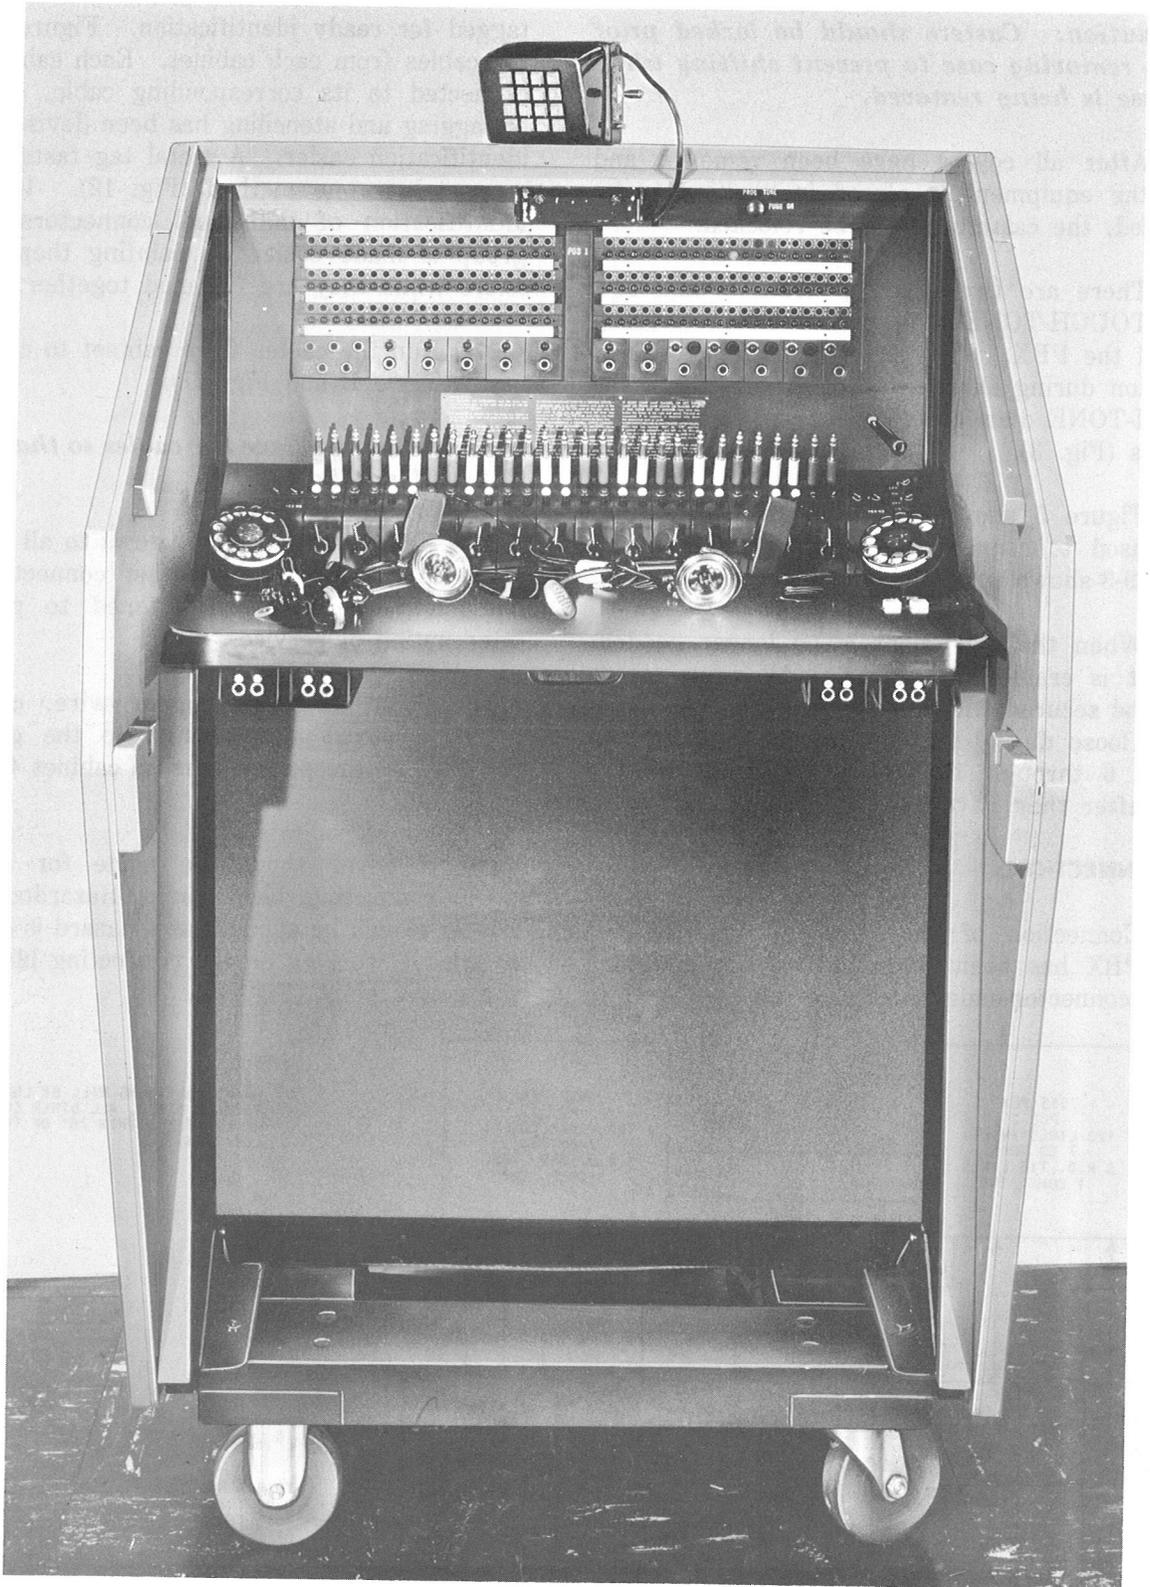

Fig. 4—Position 1 in Case with Cover Removed
**3.03** The two PBX crates are completely assembled with wood screws. Removal of the screws around the bottom allows the cover to be removed. This cover must be lifted to an adequate height to be removed (Fig. 4).